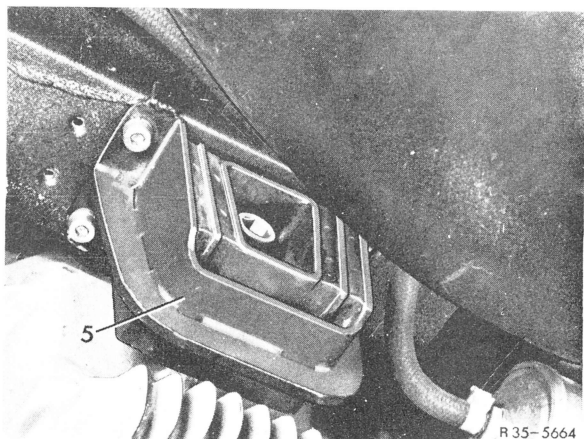

Fig. 7
10 Unscrew rear rubber mounting (5) on frame floor (Fig. 7).
21 Lift rear axle center housing up to frame floor and attach rubber mounting to frame floor. Tightening torque of hex. bolts 25 Nm (2,5 kpm) (Fig. 7).